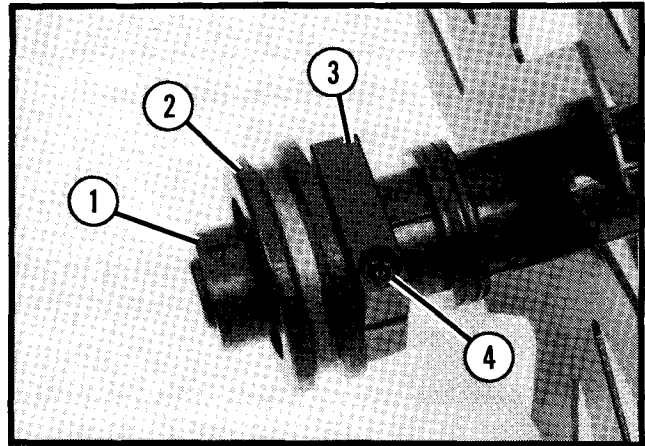

Figure 13. Reel Disassembly
1. On the end of the shaft opposite the pulley, loosen the set screw in the locking collar on the reel shaft. Insert a punch in the small hole in the collar and use hammer to tap the collar clockwise until it's loose (approx. 1/4 turn). Remove the collar. Remove the pillow block and bearing (See Figure 13).
2. Loosen the socket head screw in the reel nut and remove the reel nut from the shaft (See Figure 13).